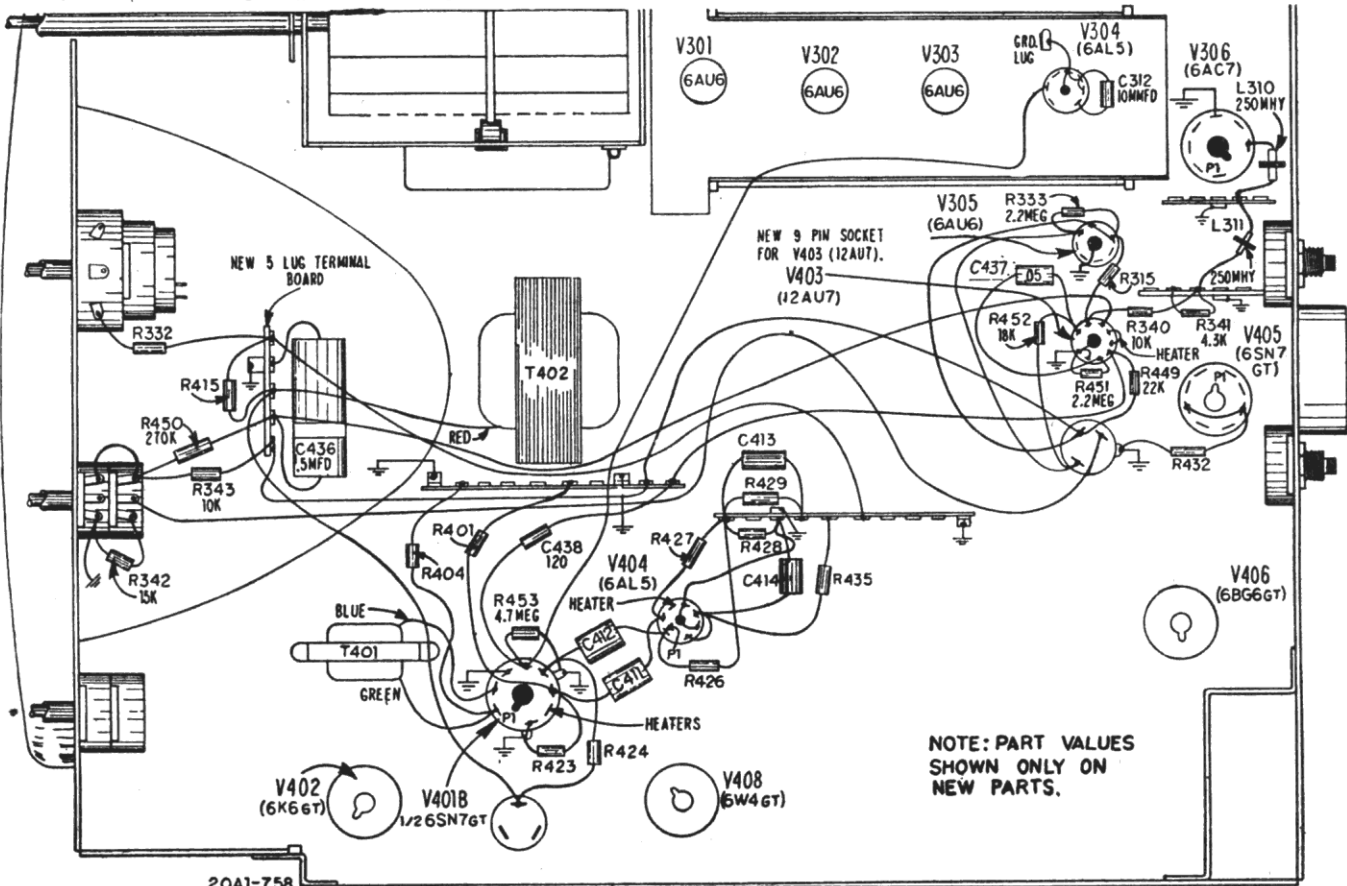

Figure 72. Bottom View of TV Chassis Showing Wiring with 12AU7 Sync Separator.
Carefully study figure 72 before proceeding. Look over the layout drawing to get a clear idea of the physical location of the sockets, component parts and wiring. (See schematic with modified sync circuit, figure 81.) Proceed as follows:
36. Check wiring against schematic, figure 81 and pictorial diagram figure 72. Replace IF strip shield cover, picture tube, V403 (12AU7) and V404 (6AL5). Check for normal operation.